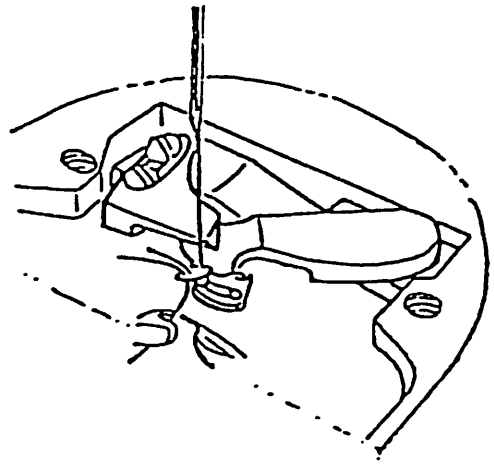

Fig. 11
5. As the needle thread is cast off the rotating hook, it catches on the hook portion of the thread puller. (Fig. 11)